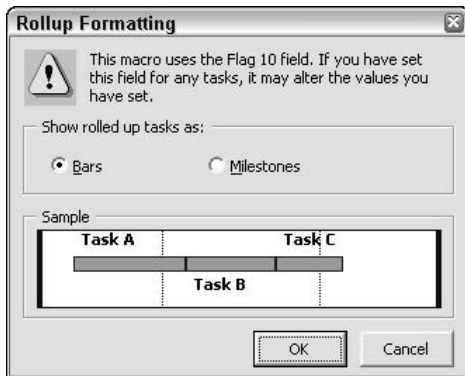

Figure 6-38: Choose the style of formatting that you want for your rollup.
6. Select the `Rollup_Formatting` macro, and click Run. Project displays the Rollup Formatting dialog box, as shown in Figure 6-38.